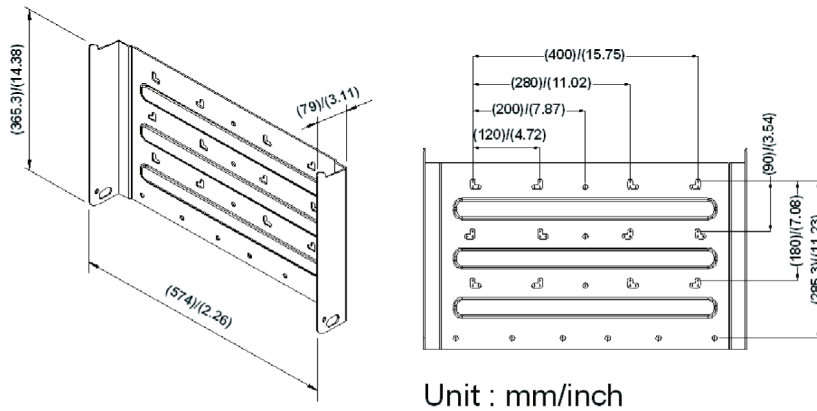

Fig 2.2.2 Inverter mounting bracket
- Use the mount bracket (Fig 2.2.2) as a template to mark the location of the holes to be drilled in the wall. After drilling the holes, the mounting bracket is then held against the wall and fastened to the wall with anchors as shown in Fig 2.2.3. (At least ten (10) screws required)